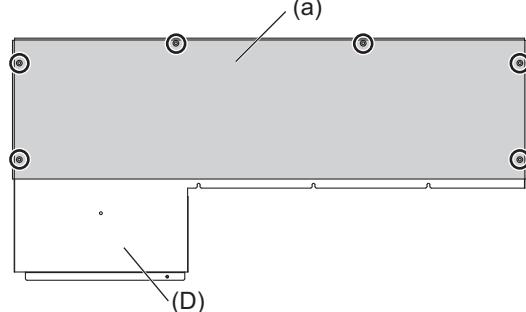

Fig.13
- To avoid dew condensation, use insulated screws in the places marked with circles in Fig.13.